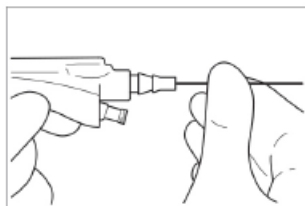

Figure 2
2. Load the fiber into the working lumen of XprESS (Figure 2).